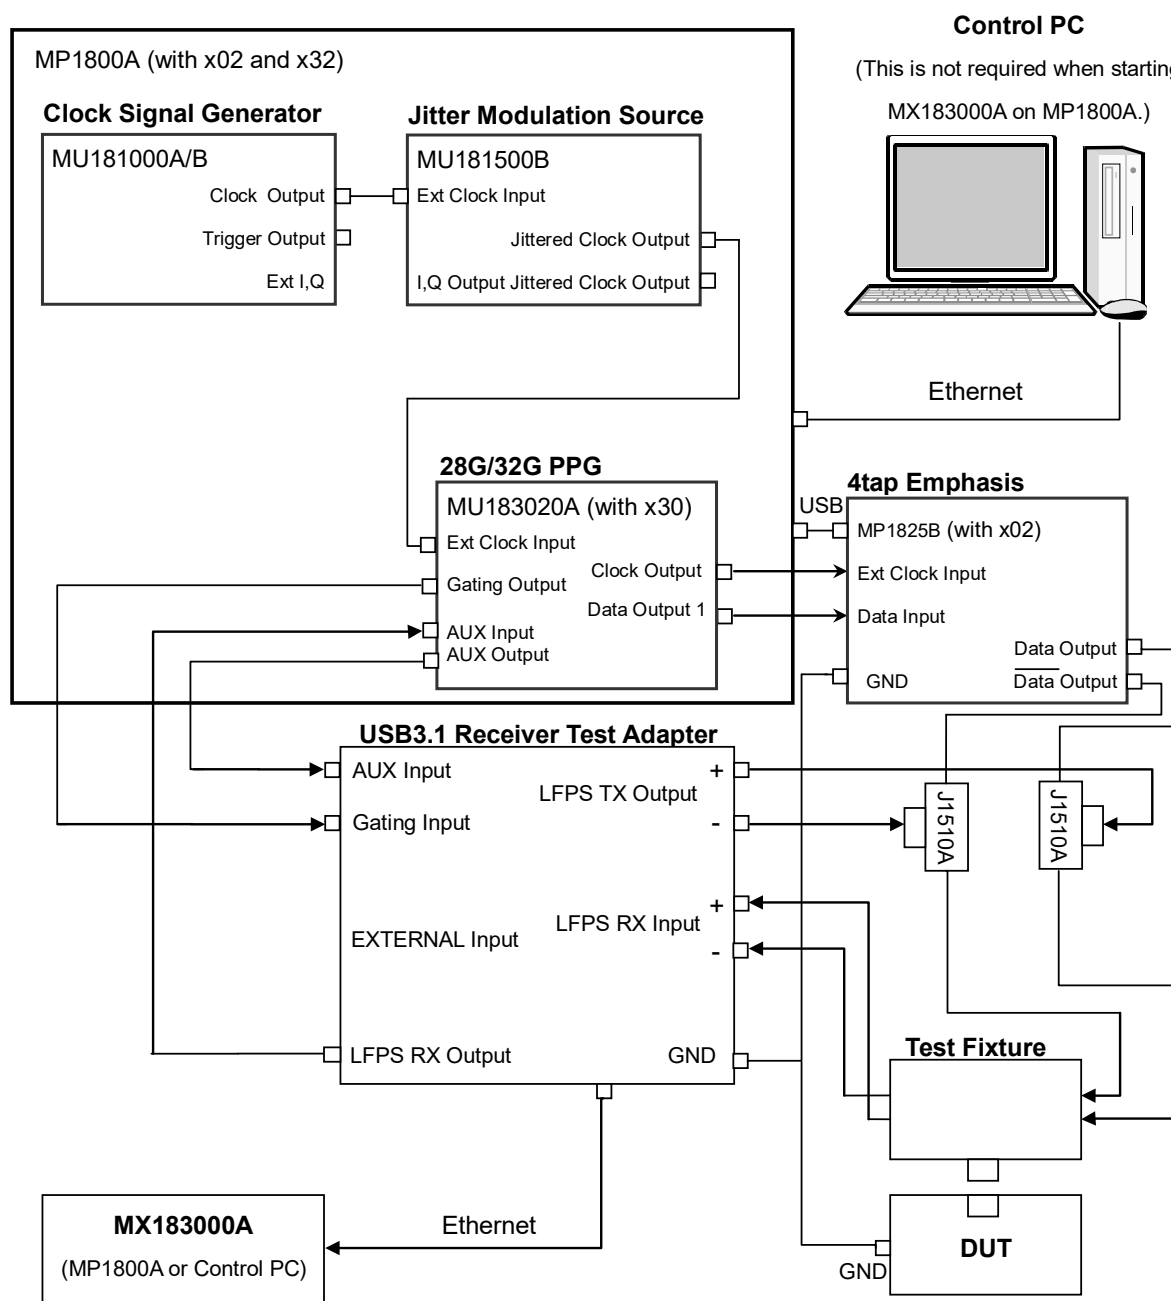

Figure 3.4.1-1 USB Link Sequence Connection Using MP1800A
10. Connect the J1510A and the LFPS TX Output connector of the USB3.1 Receiver Test Adapter with a 0.3 m coaxial cable (J1624A) as in Figure 3.4.1-1 (2 connections).
11. Connect the J1510A and Test Fixture with 0.8 m coaxial cable (J1612A) as in Figure 3.4.1-1 (2 connections).